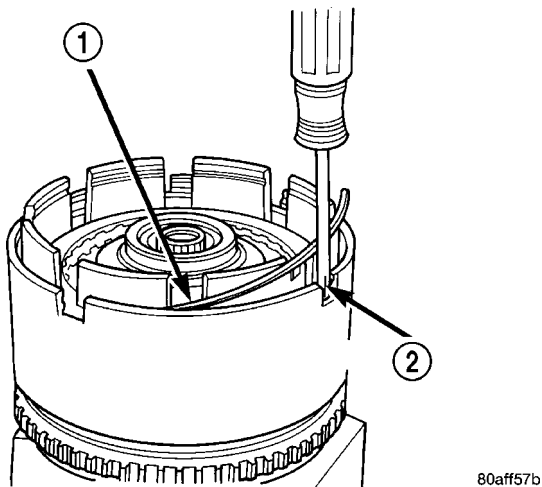

Fig. 237 Install Waved Snap Ring
(22) Install OD pressure plate waved snap ring (Fig. 237).